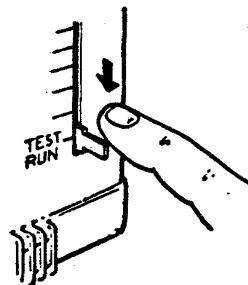

Fig. 40
- b) Set the thermostat lever to the lowest position. (The central position of the lever becomes the TEST RUN position.) Fig. 40